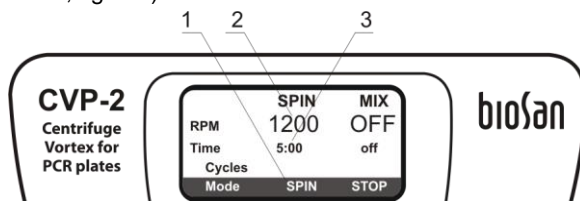

Fig. 5. Centrifugation
- 4.10.1. Select the centrifugation mode (indication **SPIN** of **Mode** parameter, fig. 5/1).
- 4.10.2. Set the required centrifugation speed, from 300 to 1500 rpm (increment 100 rpm, fig. 5/2)
- 4.10.3. Set the required centrifugation time, from 1 s to 30 min (increment 1 s, after 1 min - 1 min, fig. 5/3).